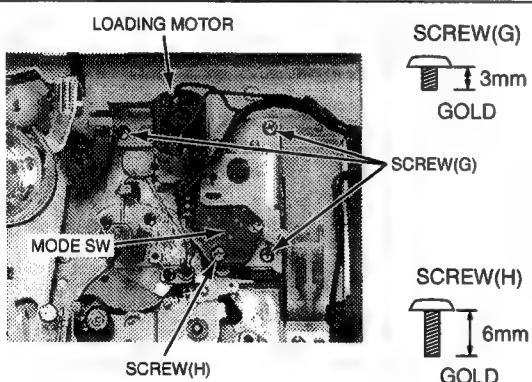

Fig. M-4
- Fig. M-4 Unscrew 5 screws (G) and (H) and remove the Loading Motor Base.